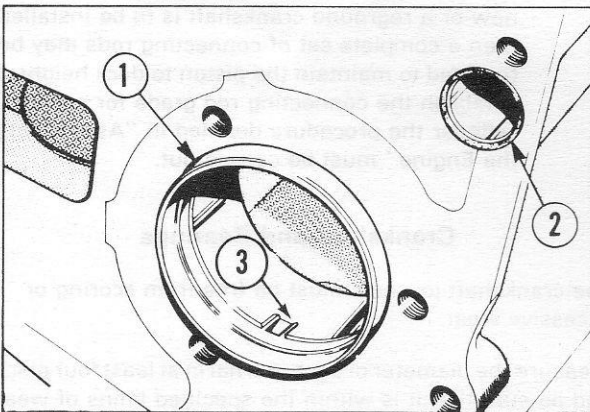

Fig. 30 - Cylinder Block Front Face
1. Remove the timing gear housing locating ring (if not already removed) (Fig. 30).
3. Bend up the tang on the camshaft front bearing (Fig. 30).
6. After installing the front bearing, bend the tang into the locating hole in the cylinder block (Fig. 30).